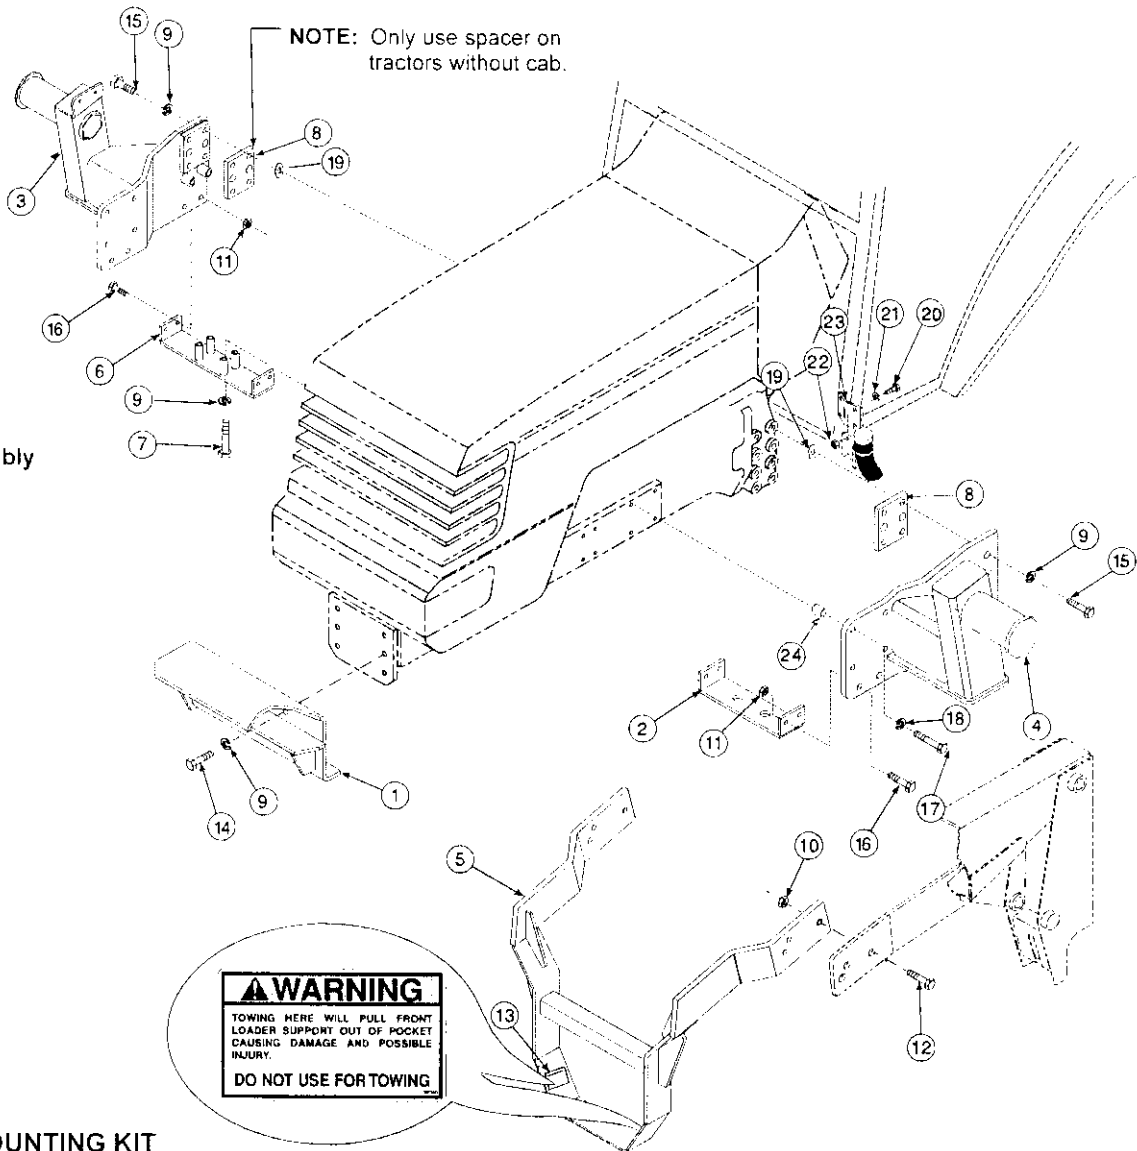

Figure 1
INSTALLING MOUNTING BRACKETS (Figure 1)
3. Install midmounting brackets (3 & 4) to right and left side of tractor transmission casting using 16MM x 75MM cap screws (15) and 5/8 lock washers (9) and 5/8 flat washers (19) as shown in figure 1. Secure mid mounting brackets (3 & 4) to tractor frame using 14MM x 90MM cap screws (17) and 9/16 lock washers (18).
4. Install front crossmember (2) to right and left midmounting assemblies (3 & 4) using 5/8 x 1-3/4 cap screws (16) and 5/8 lock nuts (11).
5. Install rear crossmember (6) to right and left midmounting assemblies (3 & 4) using 5/8 x 1-3/4 cap screws (16) and 5/8 lock nuts (11).
6. Fasten rear crossmember (6) to under side of tractor transmission casting using 16MM x 100MM cap screws (7) and 5/8 lock washers (9).